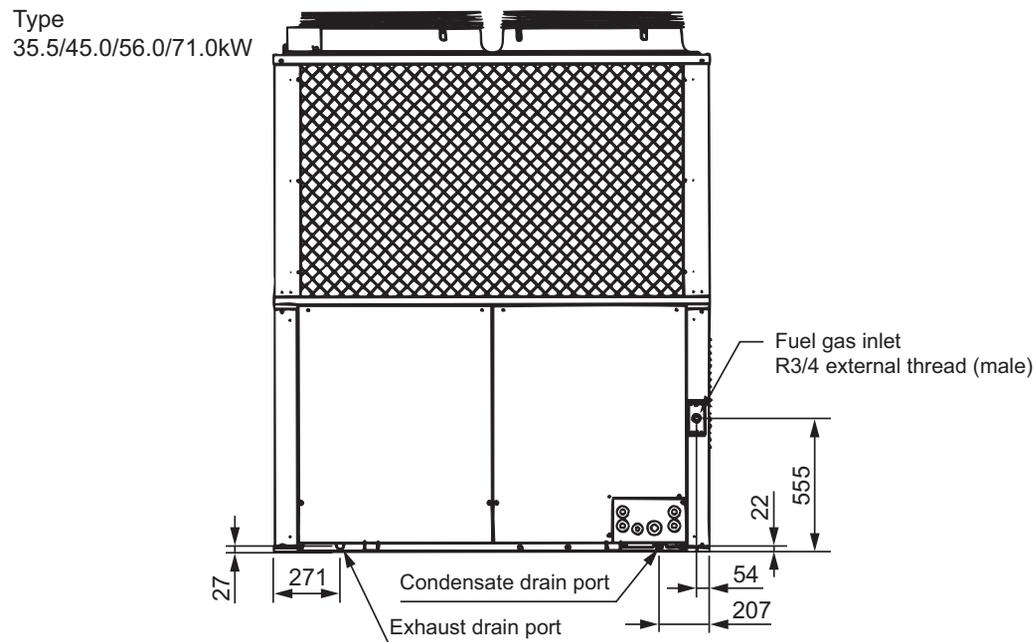

Fig. 9
- As condensed water drips from the unit, be sure to install it in a location with good drainage. (Tubing for the condensate drain port (Fig. 9) is not necessary, but follow the above precautions if tubing is installed.)